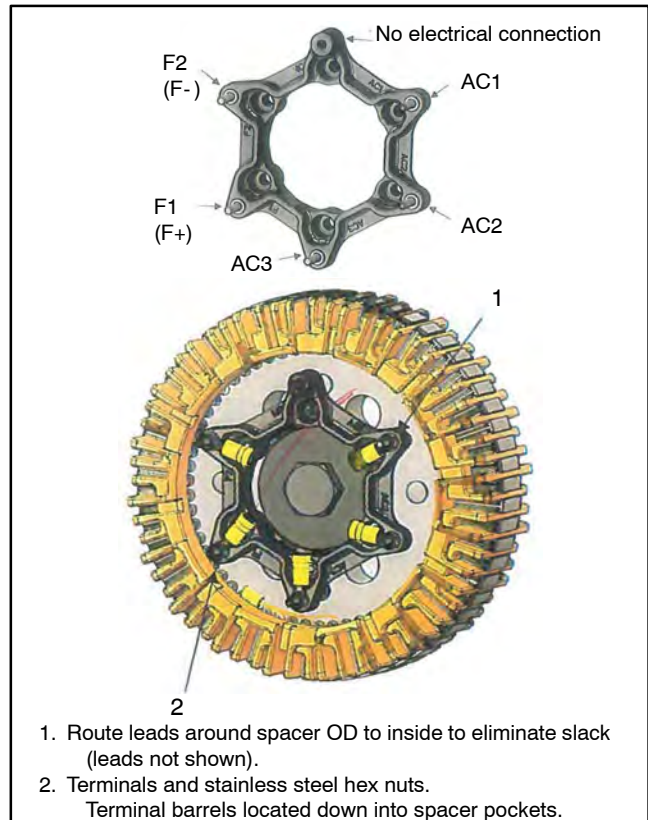

Figure 16-10 Spacer Connections
8. Route the exciter armature and rotor leads (AC1, AC2, AC3, F1, and F2) around the outer diameter of the spacer to the inside to eliminate slack. See Figure 16-10.
Note: Lead connections are identified on the spacer and in Figure 16-10.
9. Use 5 terminals and **5 stainless steel hex nuts** to connect leads AC1, AC2, AC3, F1 and F2 to the spacer studs. Torque to 1.3 Nm (12 in. lbs.). Locate the terminal barrels down inside the spacer pockets. See Figure 16-10 and Figure 16-13.